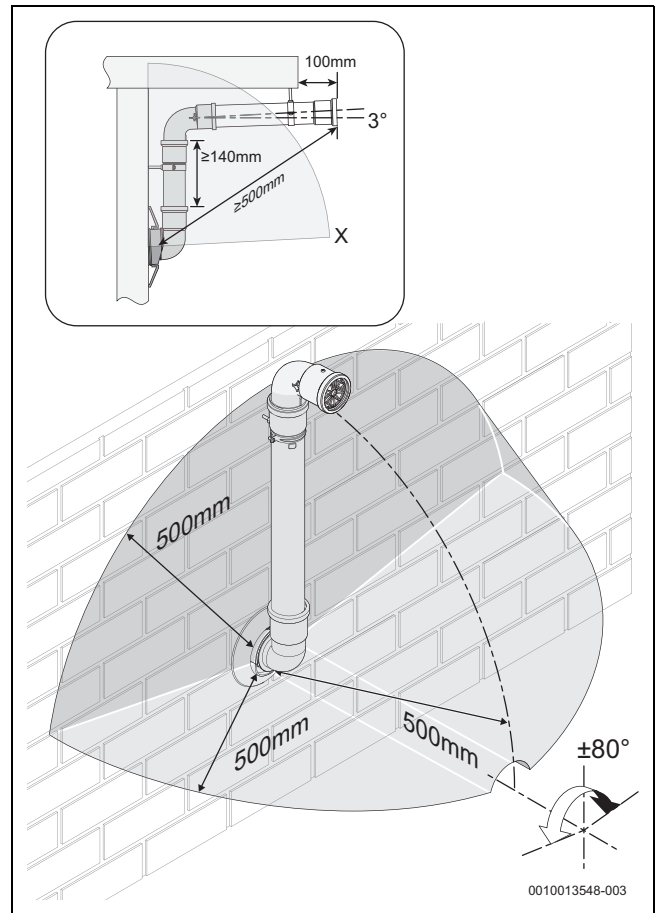

Fig. 24 Terminal exclusion zone
- ▶ Do not terminate the plume management inside the terminal exclusion zone (shaded area) shown in figure 24.